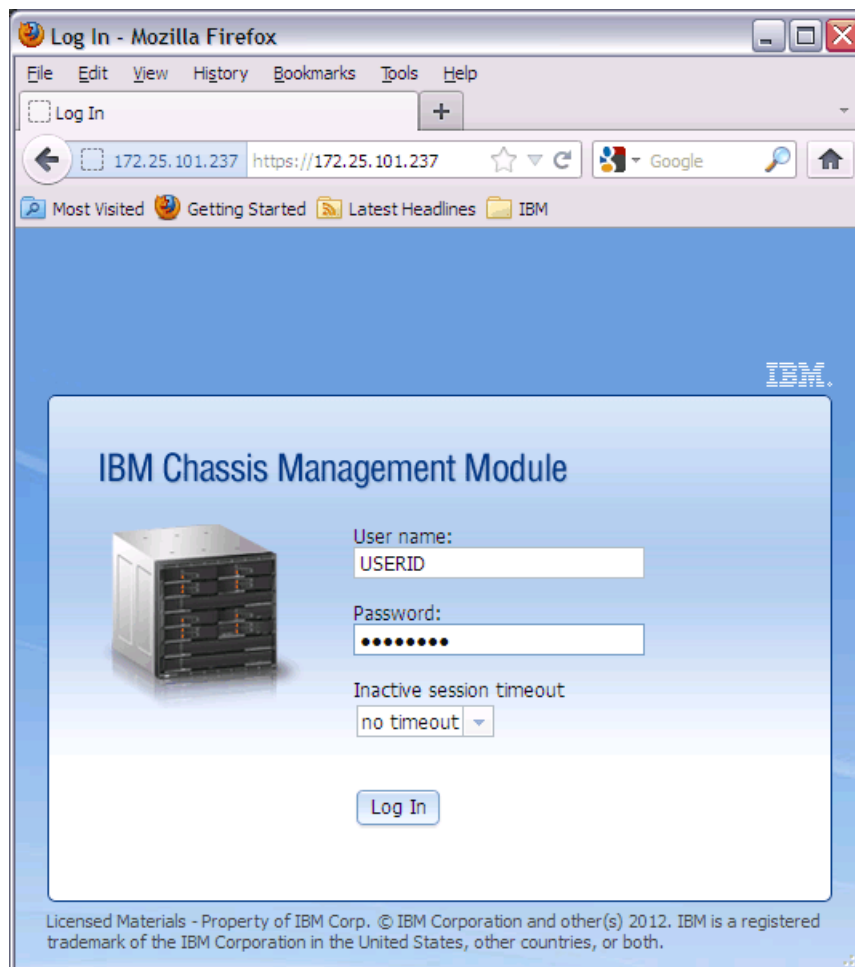

Figure 6-8 Log in to CMM
1. Point your web browser to CMM IP address and log in, as shown in Figure 6-8.